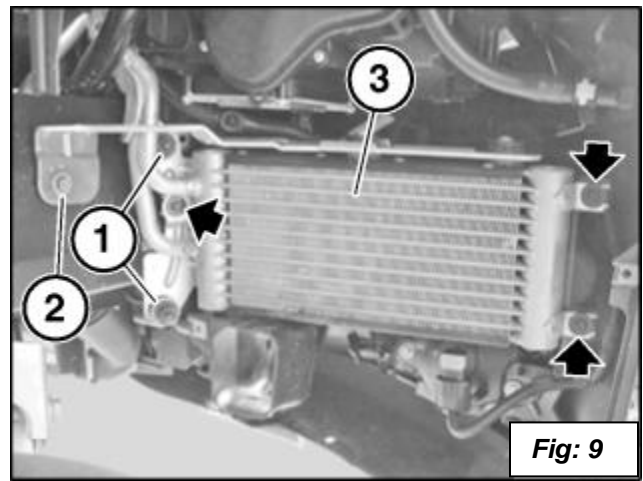

Fig: 9
13. Remove the three screws marked with arrows that hold the duct to the oil cooler (3). See **figure 9**.
14. Remove the bolt (1) and the nuts (2) and save for installing on the new oil cooler. You will also need the two large rubber mounts and top bracket and will remove them in step 19. See **figure 9**.